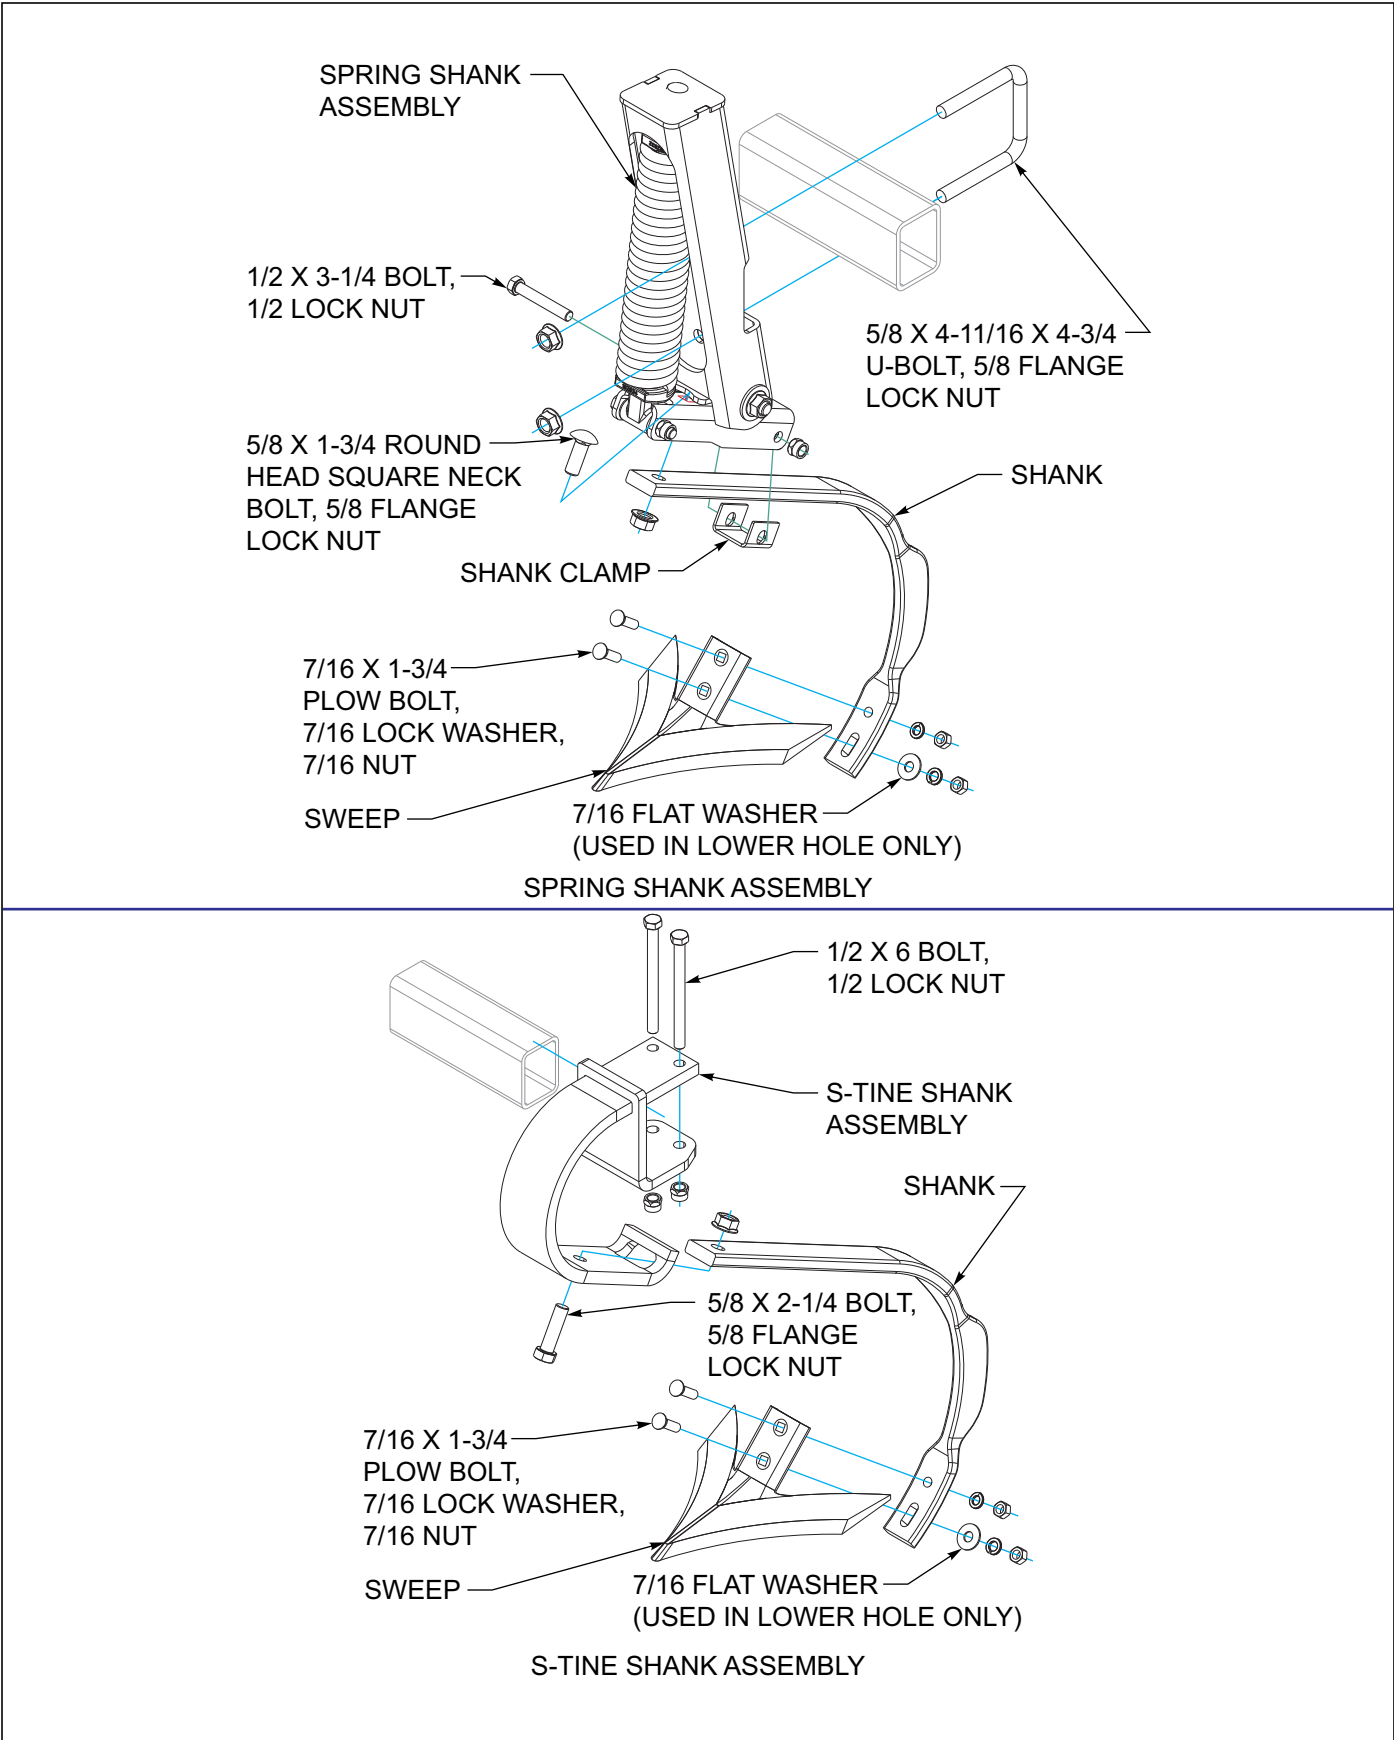

Figure 3-39: Shank and Clamp Installation
2. Install shanks in clamps See Figures 3-39.